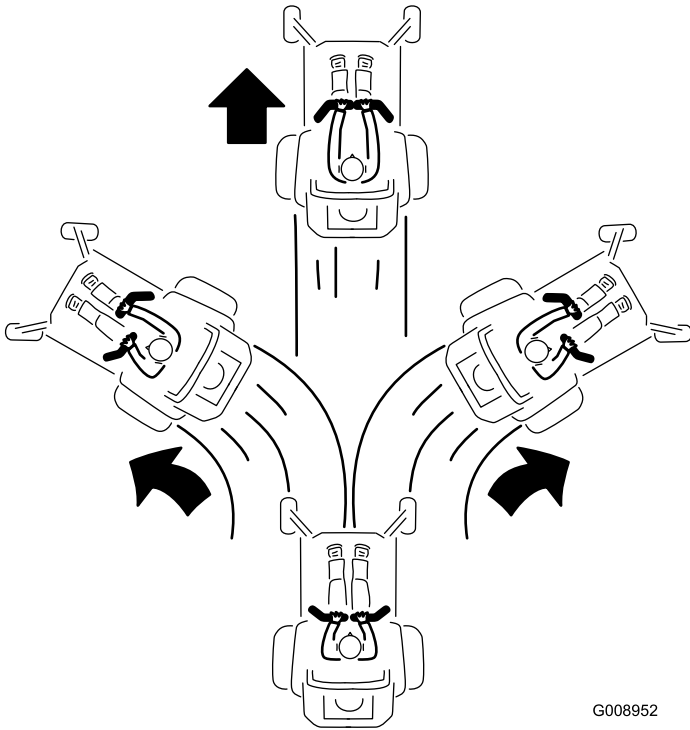

Figure 22
3. To go forward, slowly push the motion-control levers forward (Figure 22).